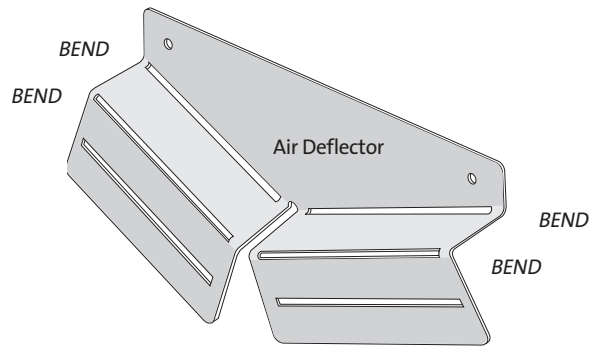

Figure 21. Air Deflector orientation.
2. Attach the Air Deflector: See figs. 21 and 22 /#3.